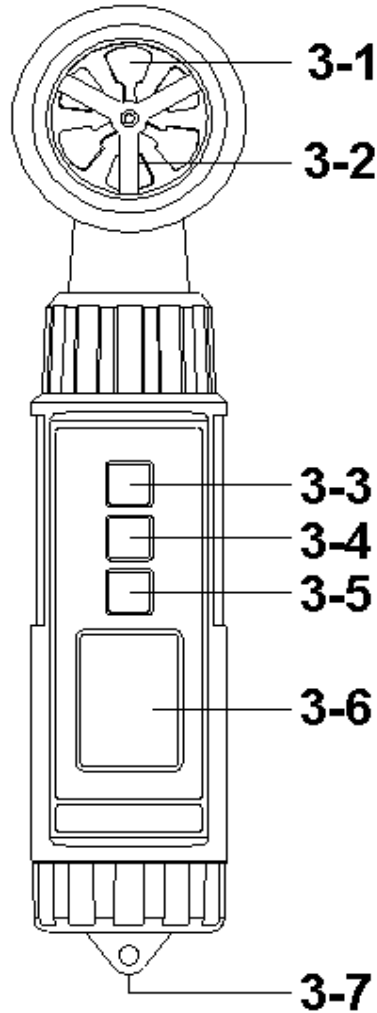

Fig. 1
1) Turn on the meter by pressing the " Power Button " (3-3, Fig. 1) momentarily.
** Pressing the " Power Button " (3-3, Fig. 1) momentarily again will turn off the meter.*
Pressing the " Mode Button " (3-5, Fig. 1) continuously at least 2 seconds, both upper and the lower display value will be flashed, use the " ▲ Button " (3-3, Fig. 1) or " ▼ Button " (3-5, Fig. 1) to select the one kind mode (function) of above a, b, c, d, e, f, then press " ◀ Button " (3-4, Fig. 1) to entry the selecting mode.
2) Pressing the " Unit Button " (3-4, Fig. 1) continuously at least 2 seconds, both upper and the lower unit will be flashed, use the " ▲ Button " (3-3, Fig. 1) to select the upper display's unit, use the " ▼ Button " (3-5, Fig. 1) to select the lower display's unit, then press " ◀ Button " (3-4, Fig. 1) to entry the selecting unit.
- 1) Turn on the meter by pressing the " Power Button " (3-3, Fig. 1) momentarily.
(3-3, Fig. 1) momentarily.
- * During the measurement, press the " Hold Button " (3-4, Fig. 1) momentarily to hold the measured value. The LCD will show a " HOLD " symbol.
- 1) The data record function records the maximum and minimum readings. Press the " REC Button " (3-5, Fig. 1) momentarily to start the Data Record function, shows " REC " on the display.
- a) Press the " REC Button " (3-5, Fig. 1) momentarily, the " REC MAX " symbol along with the maximum value will appear on the display.
- b) Press the " REC Button " (3-5, Fig. 1) momentarily again, the " REC MIN " symbol along with the minimum value will appear on the display.
** When display shows " REC MAX " or " REC MIN ", press the " Hold Button " (3-4, Fig. 1) momentarily will delete the max. (min.) value, the display will show the " REC. " only and execute the memory function continuously.*
- 2) To de-activate this feature, Select the memory record function during measurement, by pressing the " REC Button " (3-5, Fig. 1).
- * To change the batteries, open (rotate clockwise direction) the " Battery Cover " (3-7, Fig. 1).
- * Make sure the " Battery cover " (3-7, Fig 1) is secured after changing the batteries.